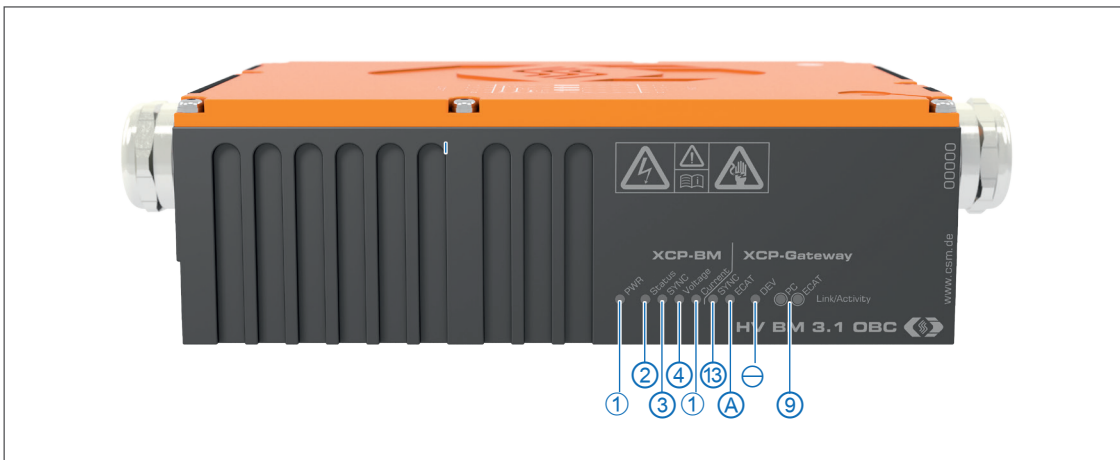

Fig. 3-2: HV BM 3.1 OBC, frontal view with LED indicators
Fig. 3-2 shows the front of a HV BM 3.1 OBC with the LED indicators. The HV BM 3.1 OBC is equipped with one cable gland on the left and right side of the housing for connecting the multi-core high-voltage cables.
The PWR LED (Fig. 3-2, ①) provides information on the operating status of the measurement module.
The two-color status LED (Fig. 3-2, ③) is lit red for a few seconds after the module is switched on and then turns off.⁴
The **SYNC** LED indicator (Fig. 3-2, ③) provides information on the synchronization status of the measurement module.
The measurement channel LED indicators (Fig. 3-2, ⑦ und ⑧) provide information on the status of the measurement channels. The measurement channels are arranged as follows (left to right):
The SYNC LED indicator (Fig. 3-2, ③) provides information on the synchronization status of the measurement module.
The LED indicators (Fig. 3-2, ⑦ and ⑧) show the operating status of the gateway.